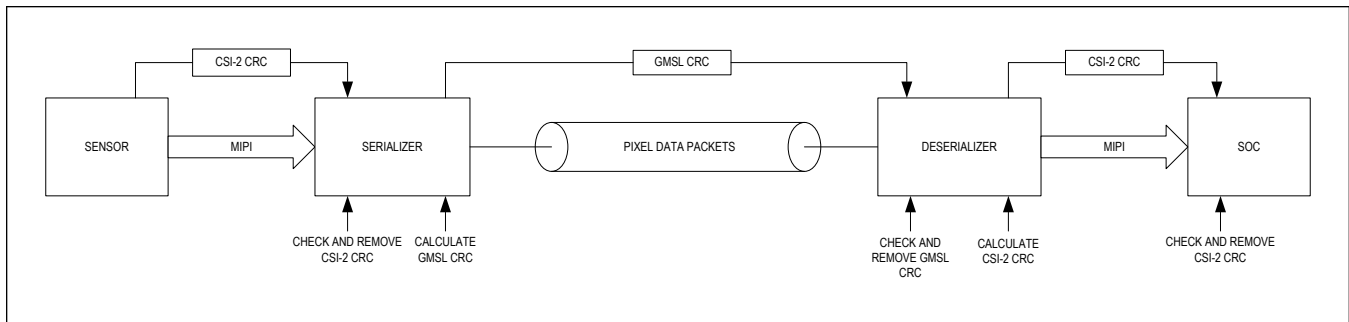

Figure 16. Pixel Mode
Pixel mode removes the CSI-2 headers and footers with only the data being packetized. The data type (DT) or virtual channel (VC) is sent separately as an info frame. The serializer adds CRC to the packetized video line or data frame and sends the resulting frame containing sensor data, control data, and CRC over the GMSL link. This provides flexibility in how different data types are packetized and optimizes the bandwidth of the GMSL link. The sensor data is then used to re-create the header and footer, ECC and CRC respectively in the deserializer to duplicate the CSI-2 data that was received by the serializer. Pixel mode supports the following data types: RAW8/10/12/14/16/20, RGB565/666/888, YUV422 8/10-bit, user-defined, and generic long packet data types. There are up to 16 virtual channels for D-PHY while C-PHY supports 32 virtual channels. See Figure 16.